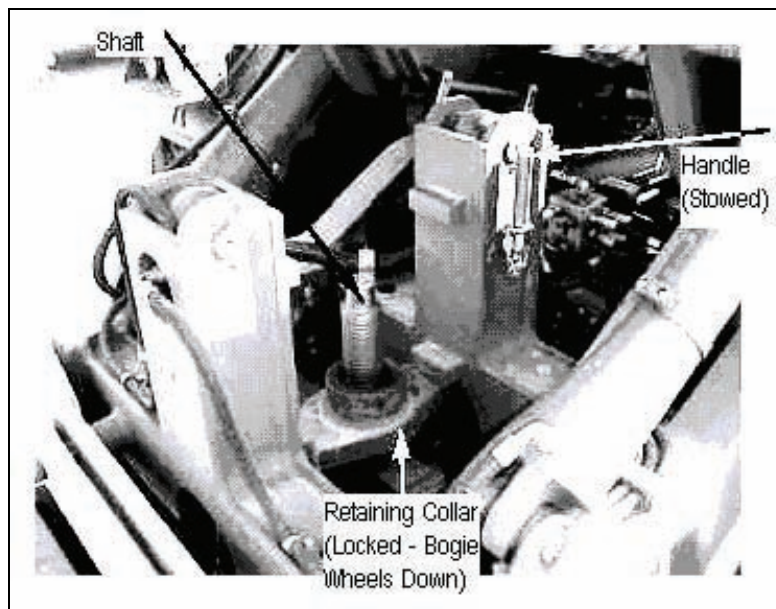

Figure 3-157. Rotating Bogie Wheels Retaining Collar
- x. Rotate bogie wheels retaining collar and turn clockwise to lock bogie wheels in position, and it may be necessary to screw shaft down to take up slack in bogie wheels lock (see Figure 3-157).